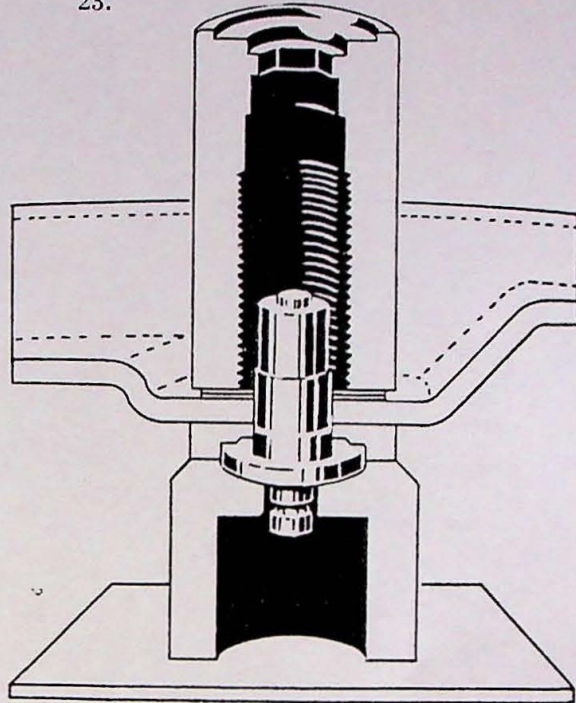

Fig. 23.
2. Invert the base sleeve and put the new bolt on top of it. Fit the adjuster cam (4), backing plate (1), base washer (3) and the sprung internally-toothed washer (2) onto the bolt. Stake the bolt with the staking tool, see Fig. 23.